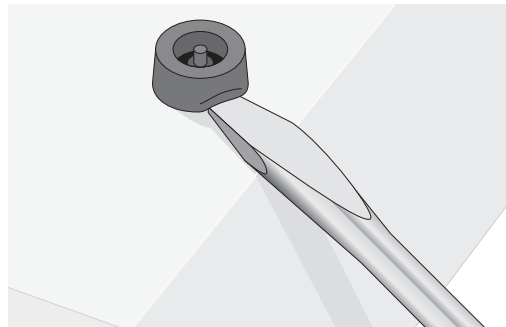

Figure 6 Removing the Protective Rubber Feet
1. If desired, remove the protective rubber feet from the bottom of the chassis, if attached, as shown in Figure 6. This is an optional step.